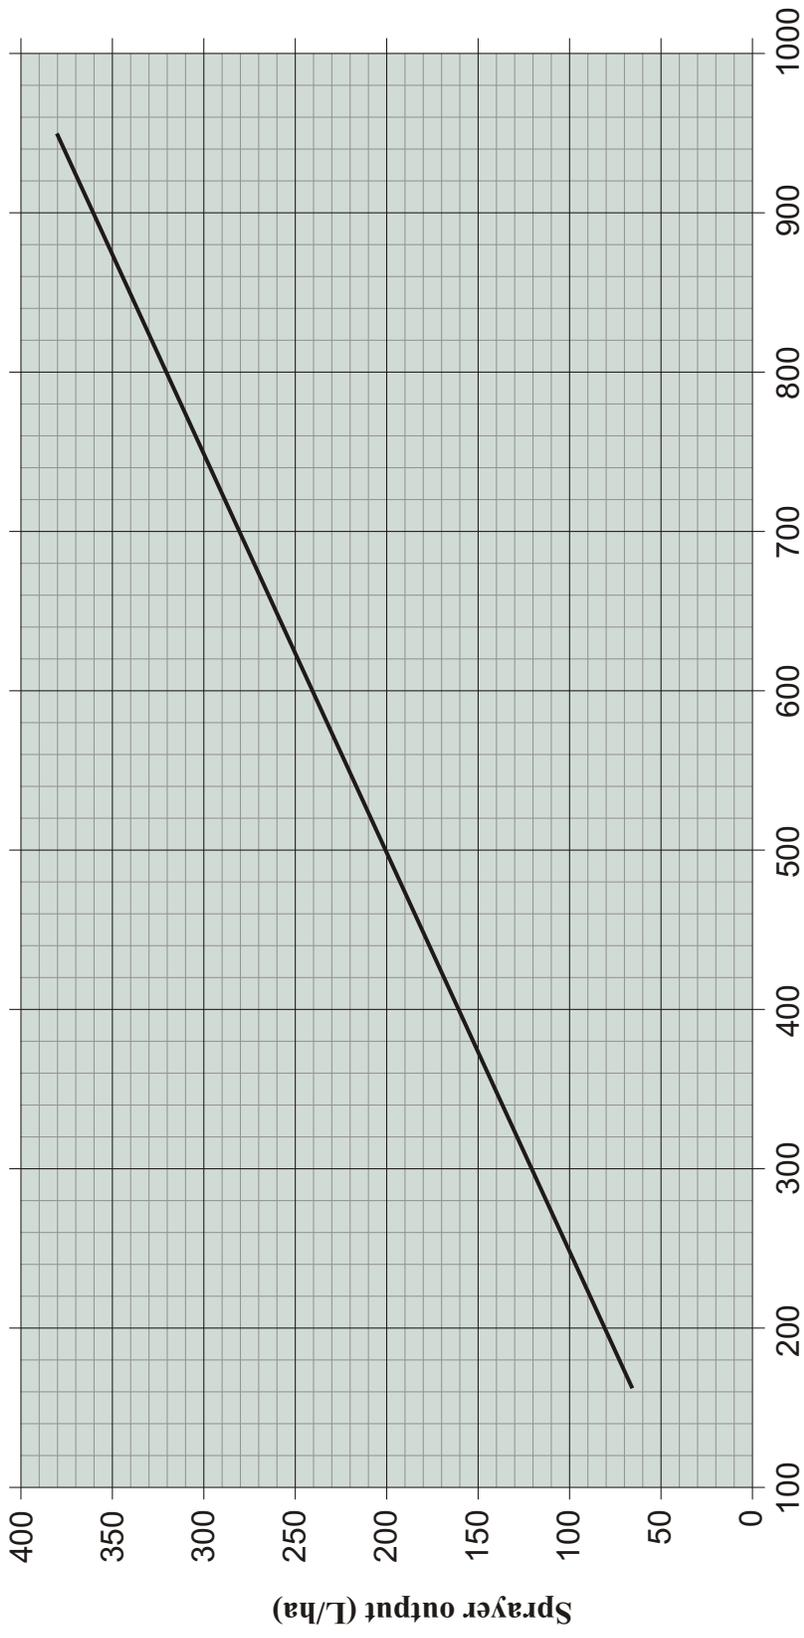

Figure 1. Sprayer Output Determination 50 m (164 ft.) for broadcast spray based on a 50 cm (20 in.) nozzle spacing.
5. The application rate for a 50 cm (20 in.) nozzle spacing can be determined using Figure 1. For different nozzle spacings or band applications multiply rate by the corresponding conversion factor found in Table 2.